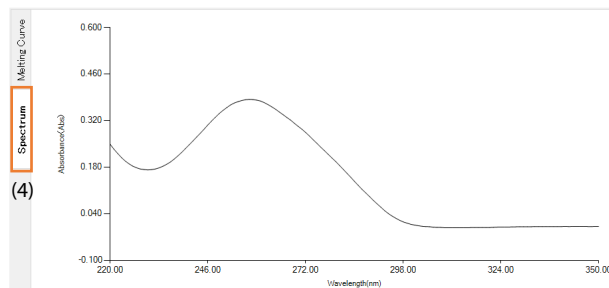

Fig. 6 Absorption Spectrum
Fig. 6 shows the absorption spectrum of the sample. Tab switching ((4) in Fig. 6) allows the user to switch between the absorption spectrum and the melting curve and check them.